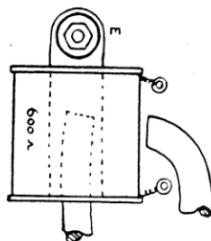

FIG. 7
In the case of a short or open circuit in the coil, it must be replaced. To do this, disconnect the two wires and loosen nut (E) (see Figure 7).
3. Ensure the pendulum has free movement. Make sure the magnet does not rub against the coil at either the top or the center hole. The coil may have shifted from a shock since it is only held by one point. Adjust it so that the magnet moves through the center of the coil's opening, then securely tighten nut (E) (Figure 7).